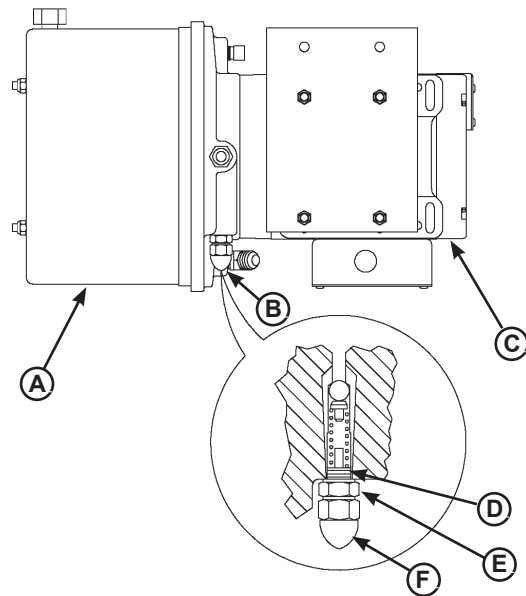

Figure 26
4. Remove acorn nut (F). See Figure 26.
5. Loosen jam nut (E).
6. Adjust hex adjusting screw (D) as follows: